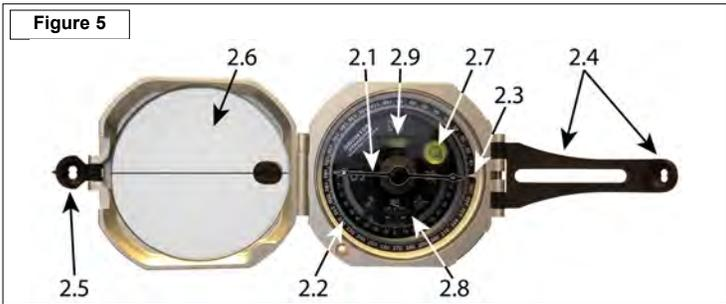

Figure 5
### 2.1 Needle (Fig 5)
**2.2 Graduated Azimuth Ring (Fig 5)**
**2.3 Zero Pin (Fig 5)**
**2.4 Large Sight w/ Peep Sight (Fig 5)**
**2.5 Small Sight (Fig 5)**
**2.6 Mirror (Fig 5)**
**2.7 Round Level (Fig 5)**
**2.8 Vernier (Fig 5)**
**2.9 Long Level (Fig 5)**